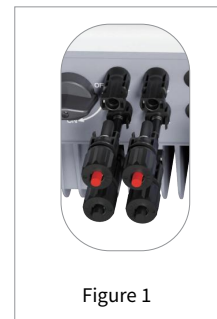

Figure 1
- Battery connection: Make sure that the polarity (+/-) is connected correctly when connecting the inverter to the battery, see Figure 1.